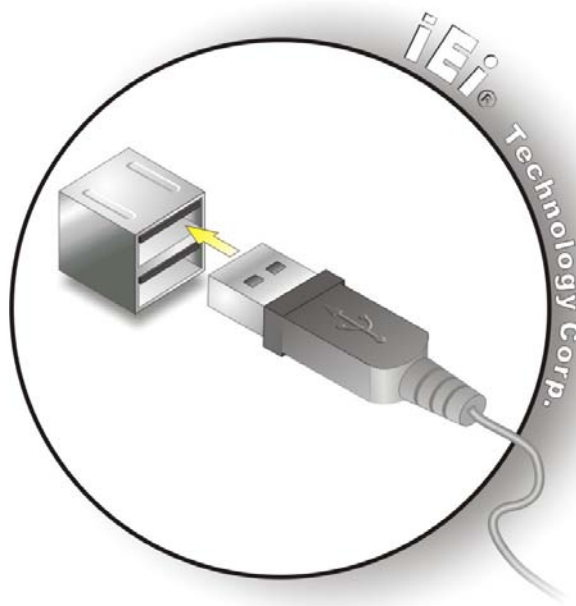

Figure 4-17: USB Connector
Step 2: Insert a USB Series "A" plug. Insert the USB Series "A" plug of a device into the USB Series "A" receptacle on the external peripheral interface. See **Figure 4-17**.